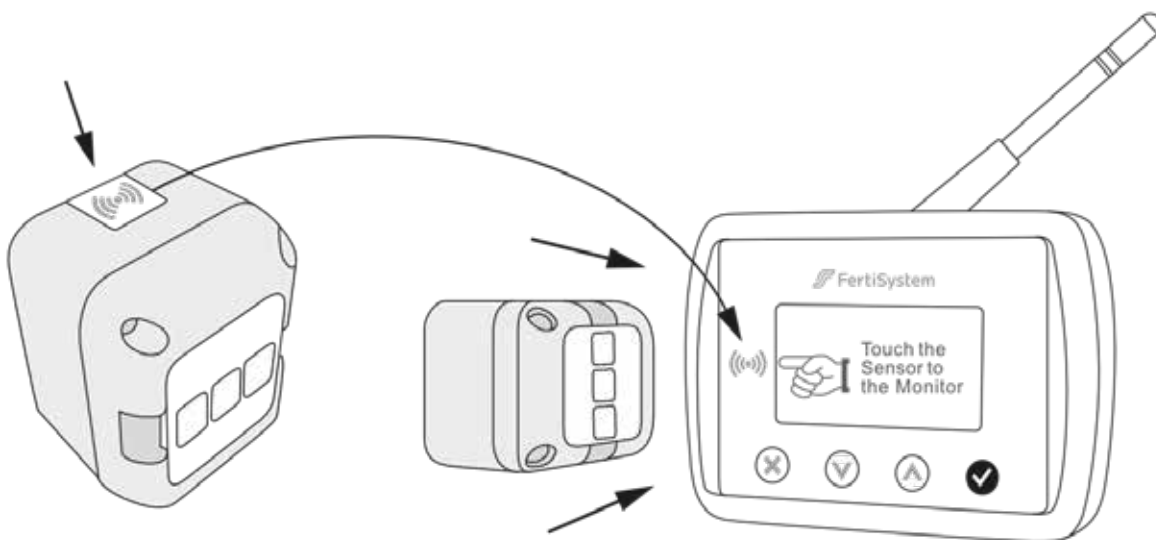

Fig. 23 & 24
3. Select the Address function (Fig. 23) by pressing the **✓** button.